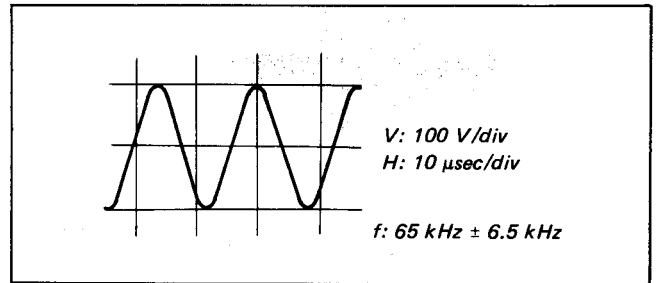

Fig. 5-34. Bias oscillator check
- (1) Set the input signal level to zero and set up the RECORD mode.
- (2) Connect a frequency counter to pin ⑧ of CN504. The reading should be 65 kHz $\pm$ 6.5 kHz. (See Fig. 5-34.)